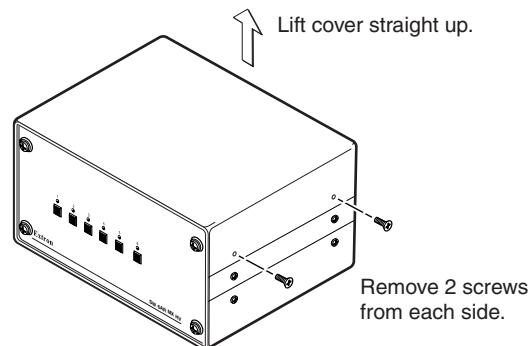

Figure 28 — Removing the switcher cover
2. Remove the cover (the top portion of the enclosure) as shown in figure 28. Remove the top two screws on each end of the enclosure, lift the cover, and place the cover upside down next to the base of the enclosure.